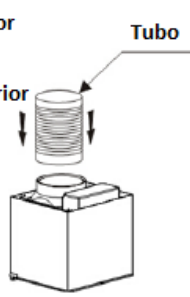

Fig. 12
- Coloque as 2 chaminés sobre o exaustor (fig. 12).